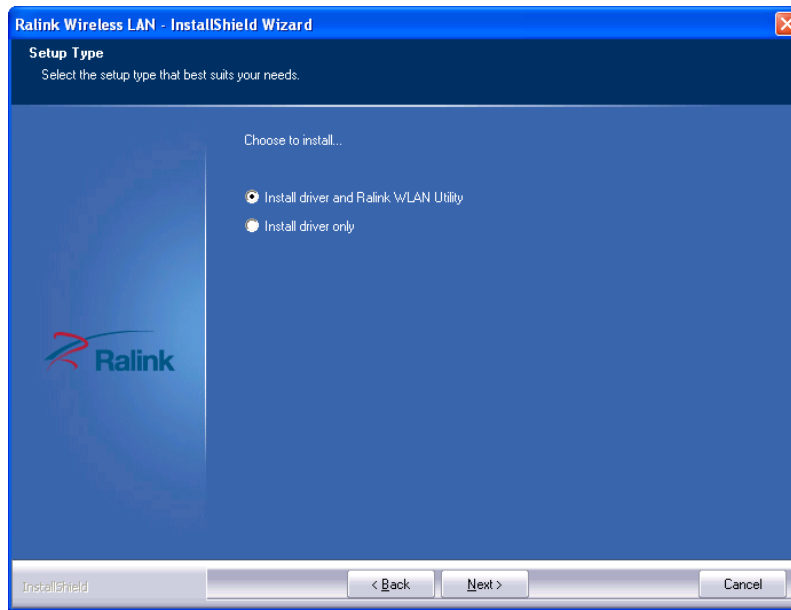

Figure 3-2: Setup Type
Step 5: The **Setup Type** screen in **Figure 3-2** appears.